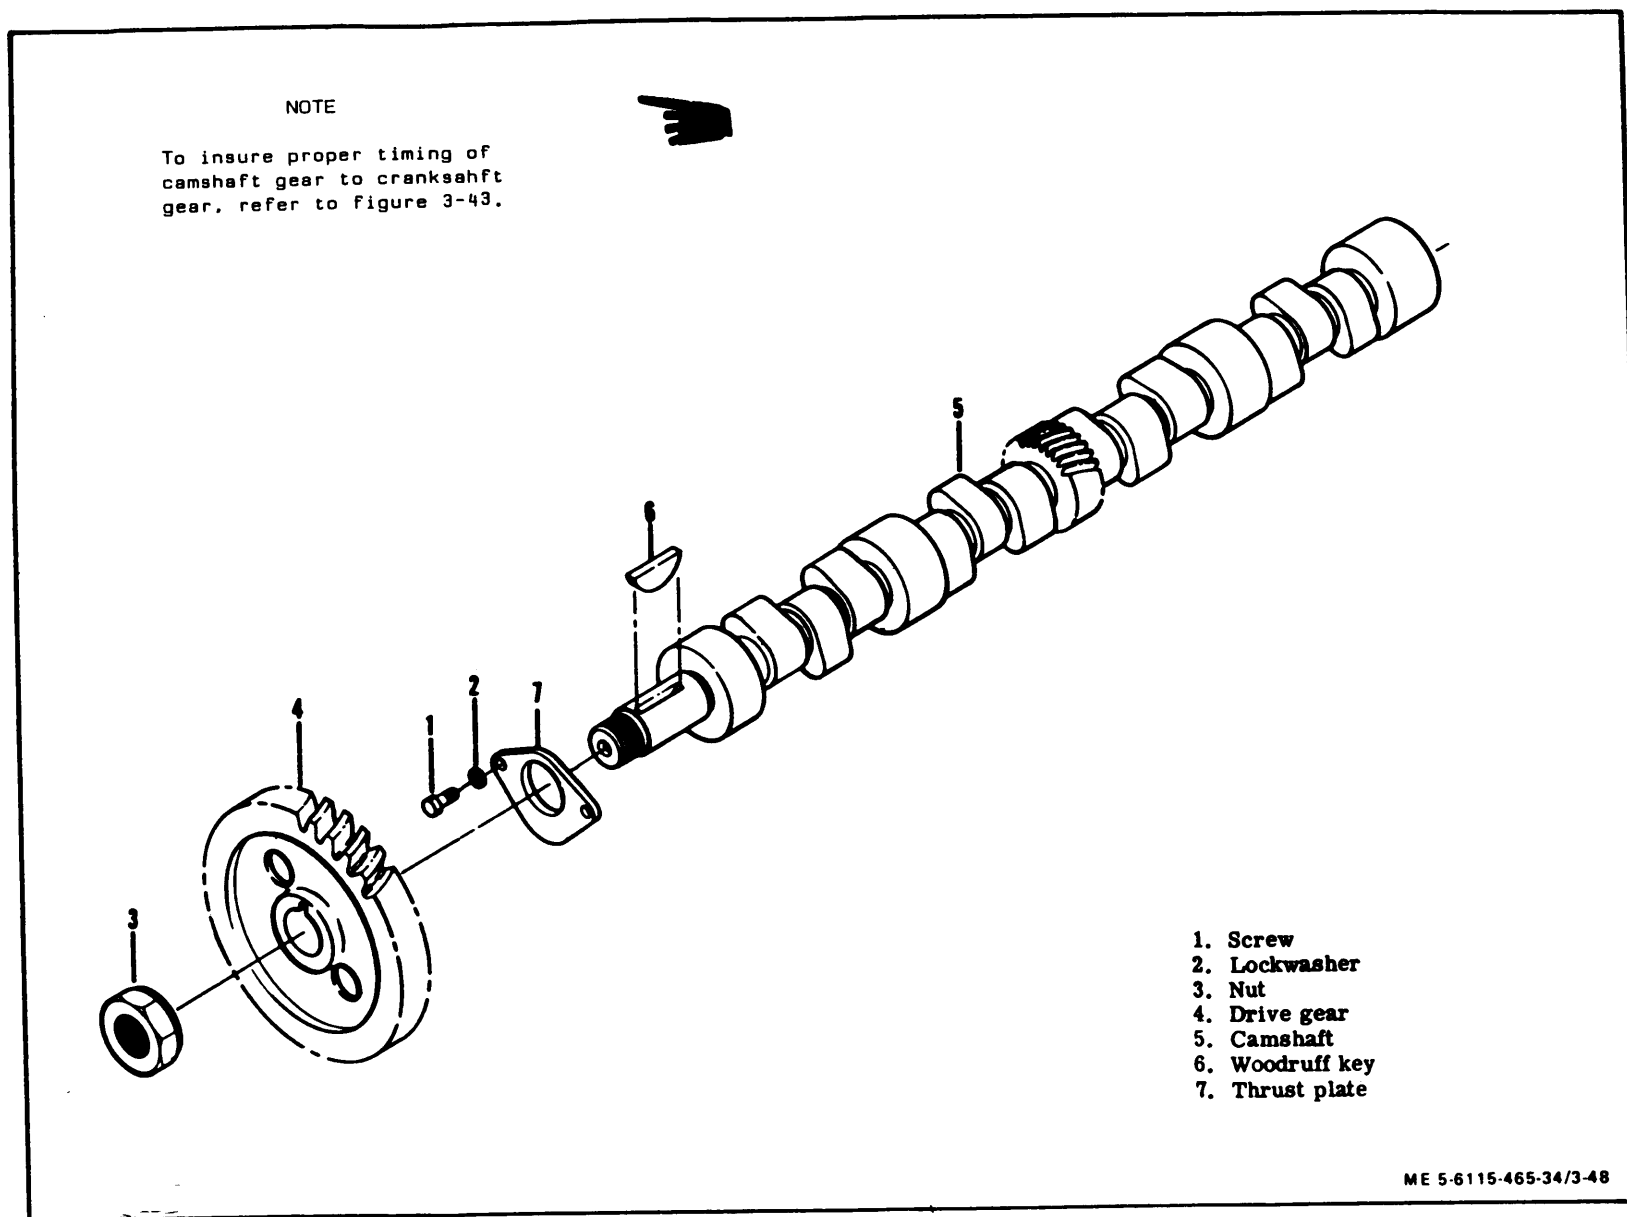

Figure 3-48. Camshaft, Exploded View
(1) Remove nut (3, figure 3-48) and support drive gear (4) on arbor press.
(2) Press shaft (5) out of gear and remove key (6) and thrust plate (7).
(1) Assemble camshaft in reverse order of removal procedures.
(2) Torque nut (3, figure 3-48) to 130 ft-lbs.